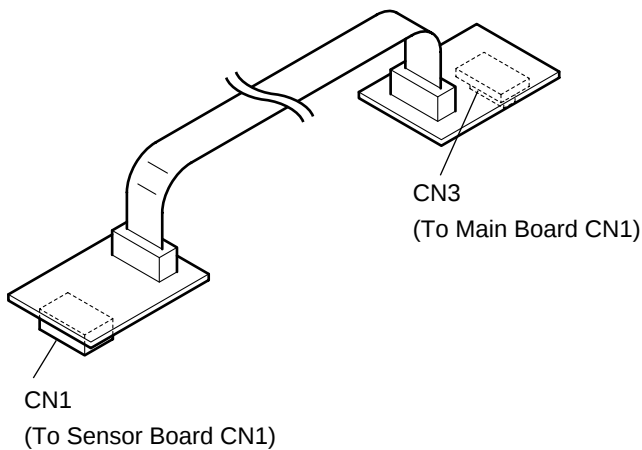

Fig. 1-2
- Extension Cable Ass'y as shown Fig. 1-2. (Part Number: V0EA1455AN)